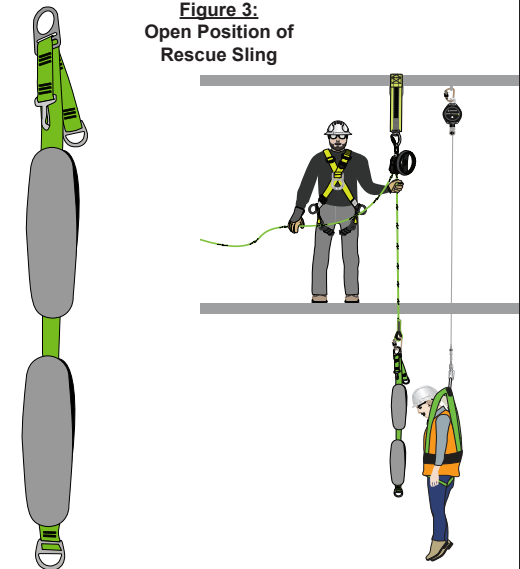

Figure 4:
3. The fallen worker will receive the Rescue Sling and will take the small D-ring end, pass the sling under both arms, and wrap the sling around the upper torso. Once the Rescue Sling is under both arms, the fallen worker will attach the sling back to itself utilizing the small D-ring and integral spring loaded rescue clip assembly on the sling. The worker should position the pads on the Rescue Sling under each armpit. The fallen worker can then tighten the sling around their torso by pulling down on the sizing adjustment strap (Figure 4).